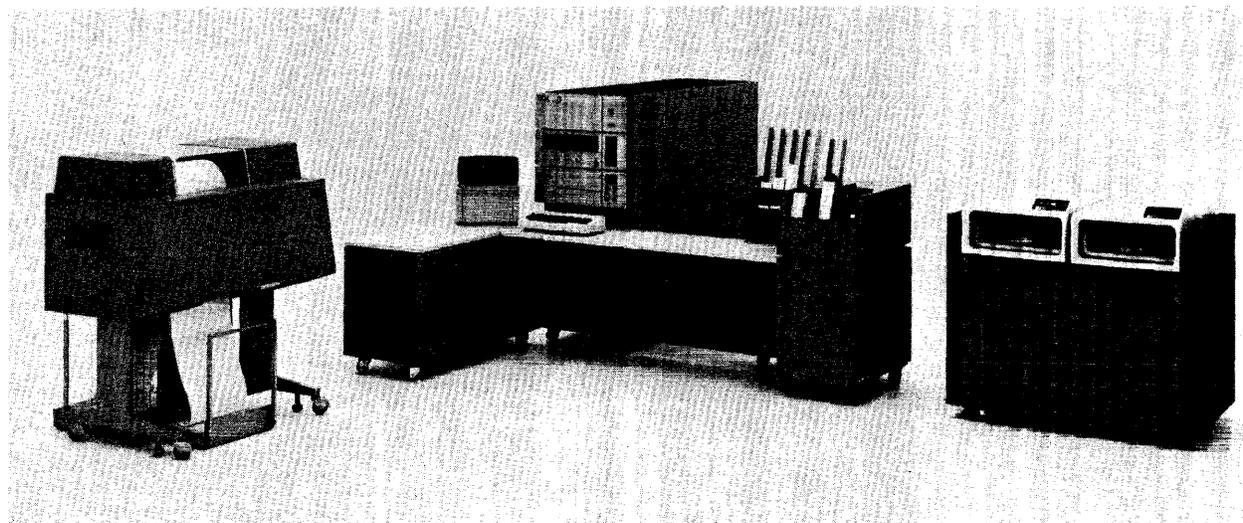

Figure 8-39. IBM System/3 Model 15
*IBM System/3* (Figure 8-39) is a low-cost general-purpose system for commercial data processing interactive problem solving. The system offers integrated card processing, stored program capability, calculating and logic capabilities, in addition to the flexibility of disk storage, and local and binary synchronous communications adapters for attaching a wide variety of teleprocessing devices. System/3, designed primarily for small business, extends the use of stored program data processing to the small data processing user.